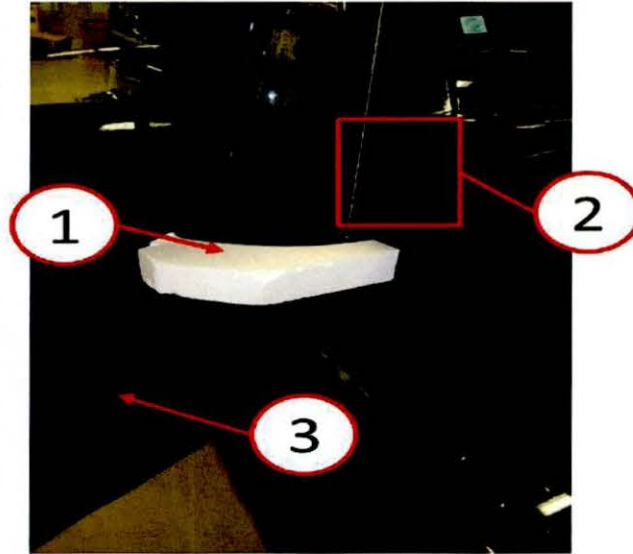

**Fig. 8 Disconnect Door Harness and Check Strap**
16. Open the suspect front door and disconnect the door wiring harness (1) by pushing red lock and remove cloth check strap (2) from hook (3) (Fig. 8).
- 29. Reconnect the cloth check strap and door wiring harness as shown in (Fig. 8)